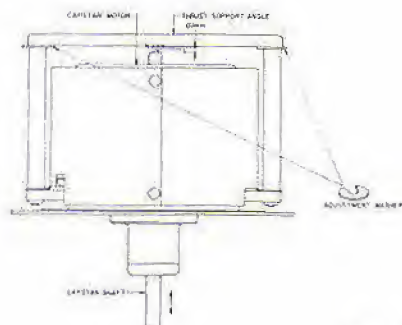

Fig. 6
9. CAPSTAN SHAFT LOOSE PLAY ADJUSTMENT (Refer to Fig. 6)